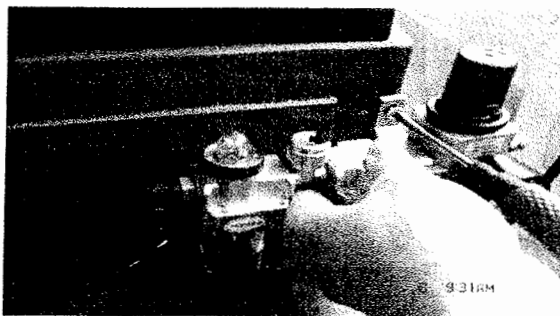

FIG12
3.3.1 Take out the air source and 2 screws from the accessory boxes and remove the oil and dust. Fix the screw on the right side of the body (FIG12)